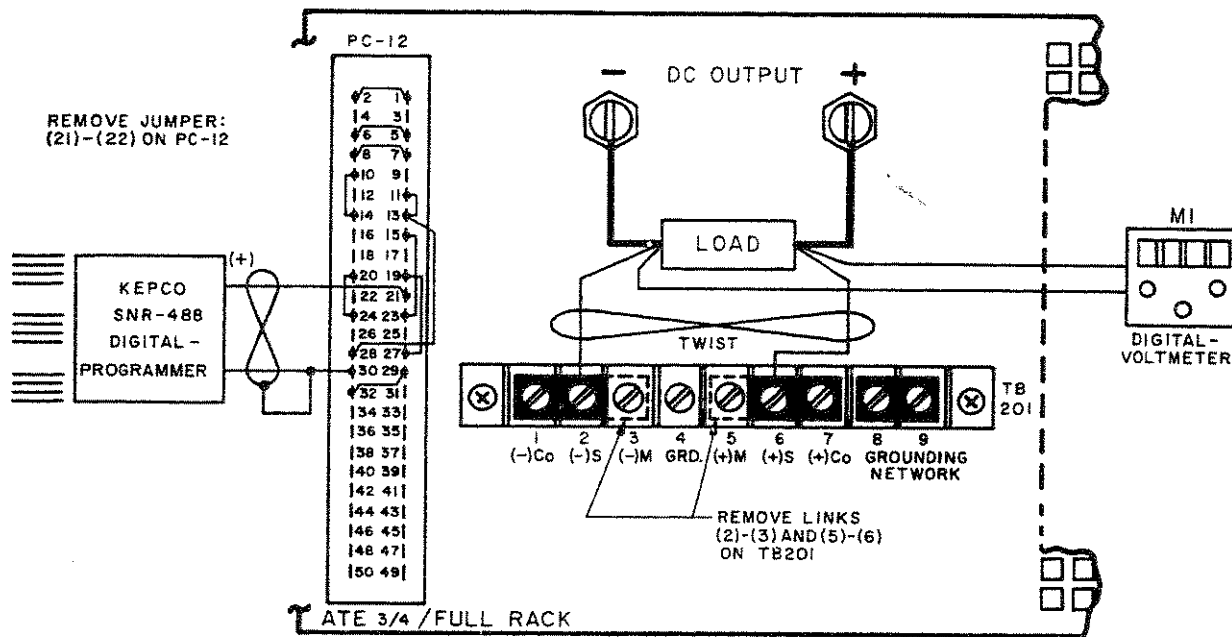

FIG. 3-6 OUTPUT VOLTAGE CONTROL WITH AN EXTERNAL (0-10V, 1 mA) D-C CONTROL SIGNAL.
- 3-38 GENERAL. The ATE output voltage which is controlled by a front panel VOLTAGE CONTROL in the Local control mode, can be remotely controlled by disconnecting the internal VOLTAGE CONTROL AMPL at the REAR PROGRAMMING CONNECTOR (PC-12) and substituting an external control signal at the input of the VOLTAGE COMPARISON AMPL with reference to the PROGRAMMING COMMON. For this "direct drive" method of voltage control, the control signal must be a positive going 0-10 volt d-c voltage source, able to supply at least 1 mA of control current. An application, demonstrating this control method is described in PAR. 3-41, and illustrated in FIG. 3-6.
- 1) Connect the EXT. CONTROL VOLTAGE, (SN-488 DIGITAL PROGRAMMER), the LOAD and the PRECISION VOLTMETER (M1) to the ATE as shown in FIG. 3-6.